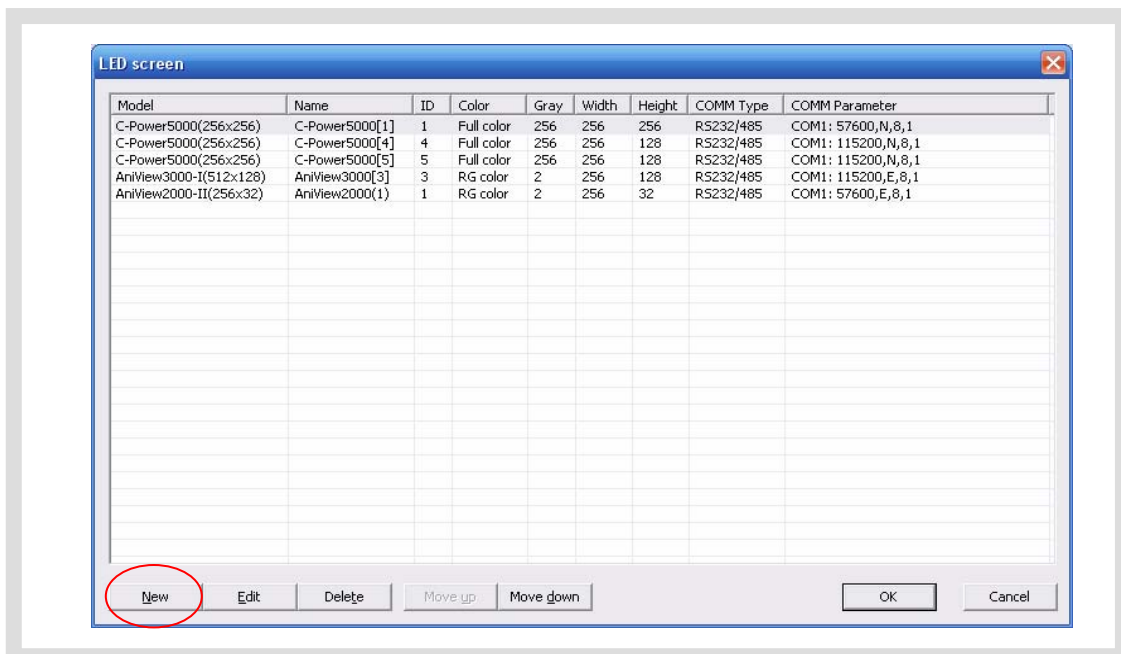

Figure3 LED screen list
- 2) Click “New” button in the “LED screen” list window, as shown in Figure3.